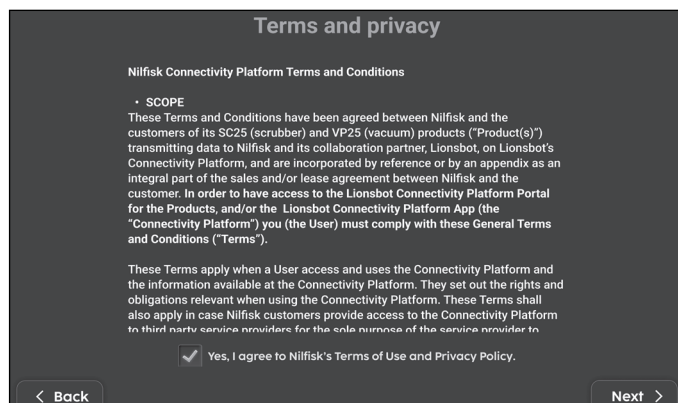

Figure 14
3. Read and agree to the Terms of Use and Privacy Policy (**Fig. 14**).